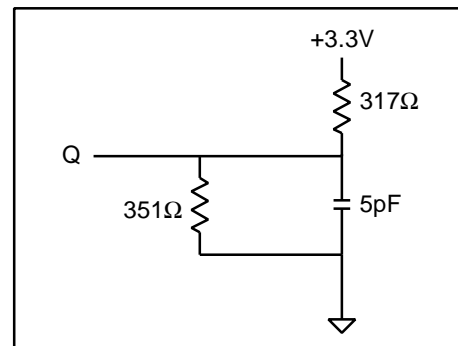

Figure 2
4. The load used for V_{OH}, V_{OL} testing is shown in Figure 2. AC load current is higher than the shown DC values. AC I/O curves are available upon request.
2. Output loading is specified with C₁=5pF as in Figure 2.